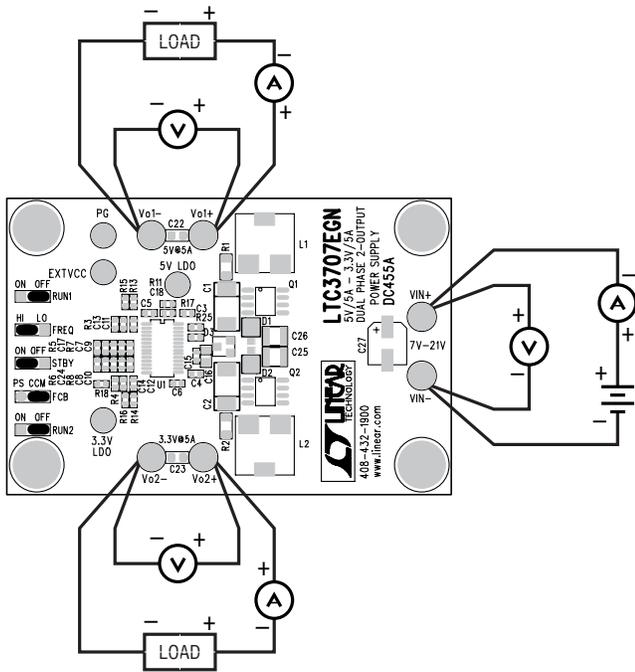

Figure 1. Proper Measurement Equipment Setup
Demonstration circuit DC455 is easy to set up to evaluate the performance of the LTC3707EGN. Refer to Figure 1 for proper measurement equipment setup and follow the procedure below:
1. With the power off, place the jumpers as shown in Figure 1.